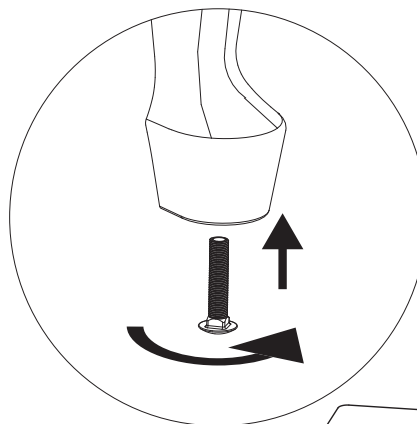

Figure 20.3
- Use leveling bolts on legs to stabilize and level stove (**Figure 20.3**).